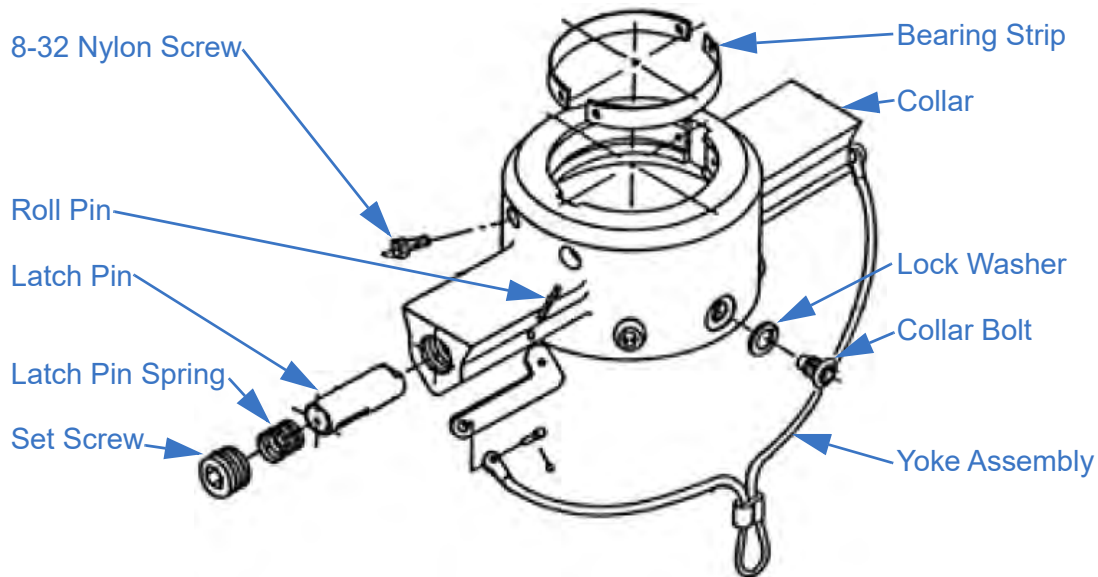

Figure 8-3 Locking Collar Assembly
- a. Remove the set screw from the end of each latch pin lug (the ears on each side of the collar) (Figure 8-3).